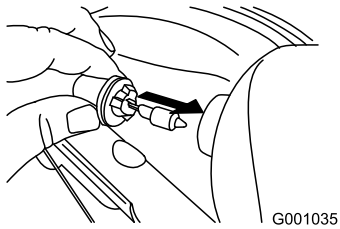

Figure 57
- Insert a new bulb into the back of the headlight (Figure 57).